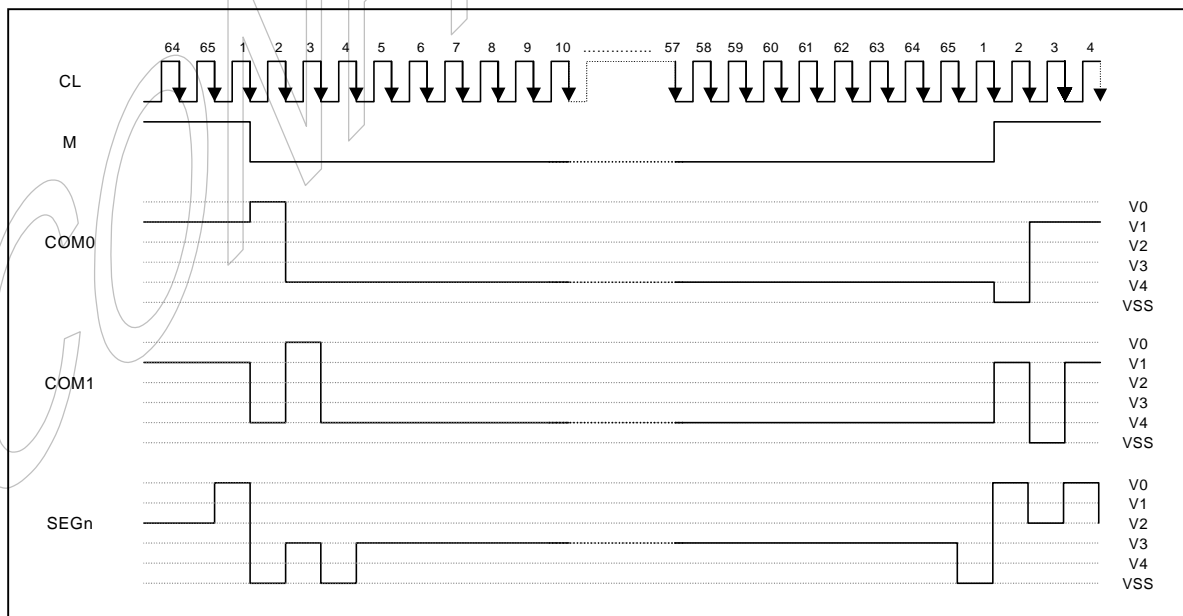

Figure 6-7. 2-frame AC driving waveform (Duty ratio = 1/65)
This circuit generates timing signals to be used for displaying LCD. The display clock (CL) is generated by oscillation clock and CL generates the clock for the line counter and the signal for the display data latch. The line address of DDRAM is generated in synchronization with CL. The 132-bit display data is latched in the display data latch circuit synchronized with CL. Reading to the display data liquid crystal driver circuit is completely independent of access to the DDRAM by the MPU. The display timing generator circuit generates an LCD AC signal (M) which enables the LCD driver to make a AC drive waveform, and also generates an internal common timing signal and start signal to the common driver. Driving 2-frame AC driver waveform and internal timing signal are shown in figure 6-7. When HT0313A is used multiple-chip configuration, the slave chip requires the M, CL and DISP signals from the master. Table 6-4 shows the M, CL, and DISP status.